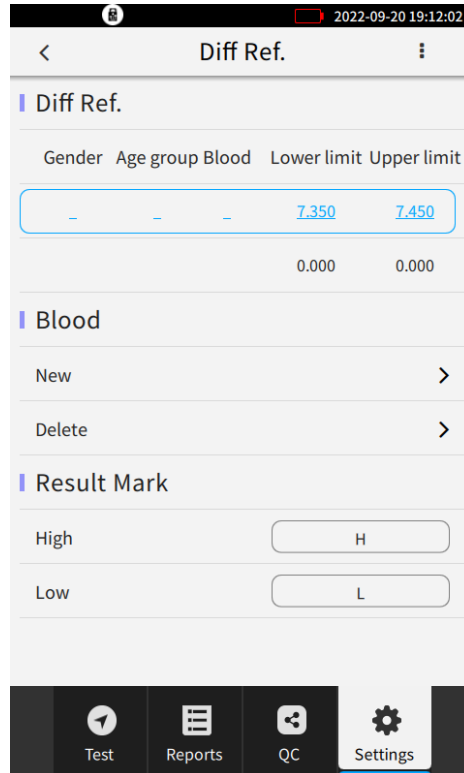

Figure 3-7
**【Difference Reference】 setting:** Click Diff Ref" in the interface as shown in Figure 3-7 to enter the interface as shown in Figure 3-7
- The user can add and delete sample types at the bottom of the interface in Figure 3-7; modify the result mark.